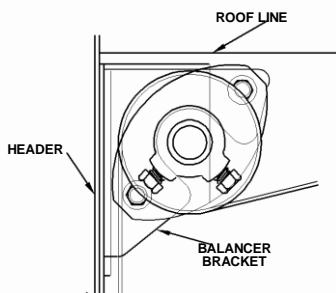

FIGURE 7
- c.) Wind cable into cable drum following grooves. It is important that the end of the cable is inserted fully into the notch. If this is not done properly, it could interfere with drum movement. Cable should run between door and header, and then straight up onto cable drum. (SEE FIGURE 7)